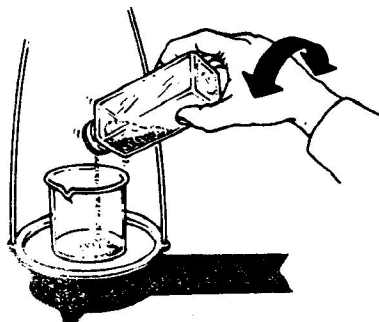
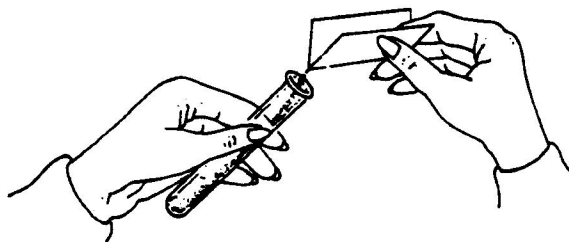

Figure 6 Pouring solid reagent.
Figure 7 Using a creased paper to transfer a solid.
**Solids.** Whenever possible, solid reagents should be poured, rather than scooped, from their containers. Figure 6 illustrates the most satisfactory method for pouring solid reagents.
When transferring a solid reagent to a test tube or other small-mouth container, it is best to use a piece of paper. Using the method shown in Figure 6, the desired quantity of reagent is first poured from its container onto a piece of paper. The paper is then used to pour the reagent into the test tube, as shown in Figure 7.